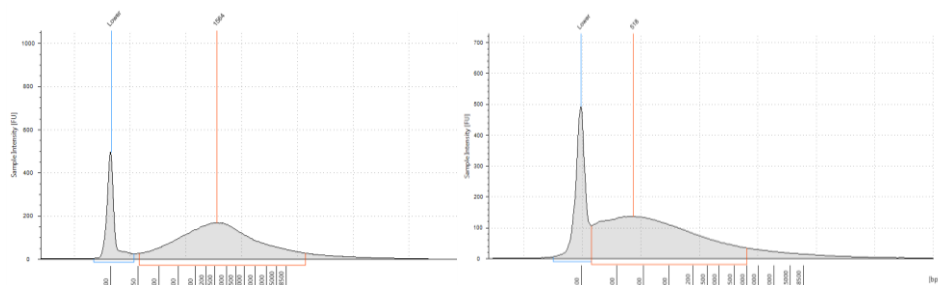

Figure 2: Assessment of DNA integrity using Genomic DNA ScreenTape.
9. Check that the electropherogram shows a distribution with a peak height >1000 bp (Figure 2).